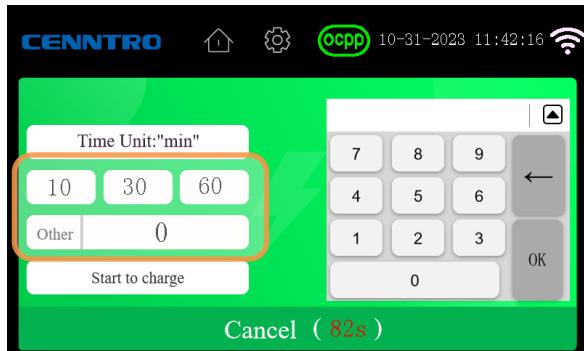

Figure 44. Time mode: the required charging time for this time
- a. Enter the percentage of electricity required for this vehicle (%)/the required charging time for this time (min)/the required electricity for this charging (kwh) (as shown in Figure 44)